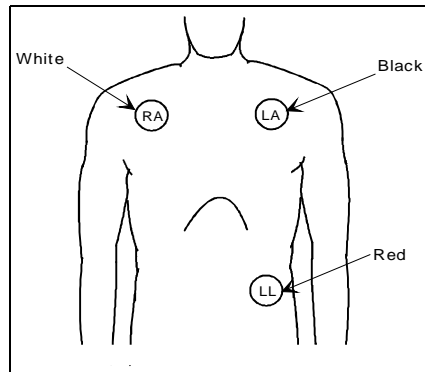

FIGURE 1-17 3-Lead Electrode Placement (standard configuration)
- Place the brown lead in any one of the V lead (V1 - V6) positions, see Figure 1-17 on page 33.